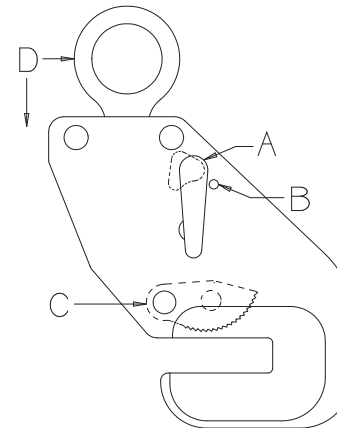

Figure 3: Locked Open
3. Upon reaching the material's destination, lower the clamp and material to a secure position until the tension is relieved on the lifting shackle (D, Fig. 3).
4. Once the load is at rest and secured, rotate the lock handle (A, Fig. 3) to the locked open position. This will disengage the clamp from the material and lock the gripping cam(s) (C, Fig. 3) out of the jaw opening to protect the gripping teeth. If the clamp is in a hard to reach position, push in on the lifting shackle (D, Fig. 3) after the lock handle (A, Fig. 3) is released to help facilitate locking the clamp open.